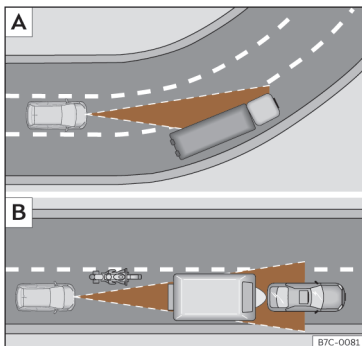

Fig. 112 [A] Vehicle on a bend. [B] Motorcyclist ahead, out of range of the radar sensor.
The ACC may not detect the vehicle in front on a curve, or may regulate the distance from vehicles in other lanes >>> **Fig. 112** [A].
- Vehicles that are not aligned while driving or that are outside the sensor's detection area, such as motorcycles >>> **Fig. 112** [B].